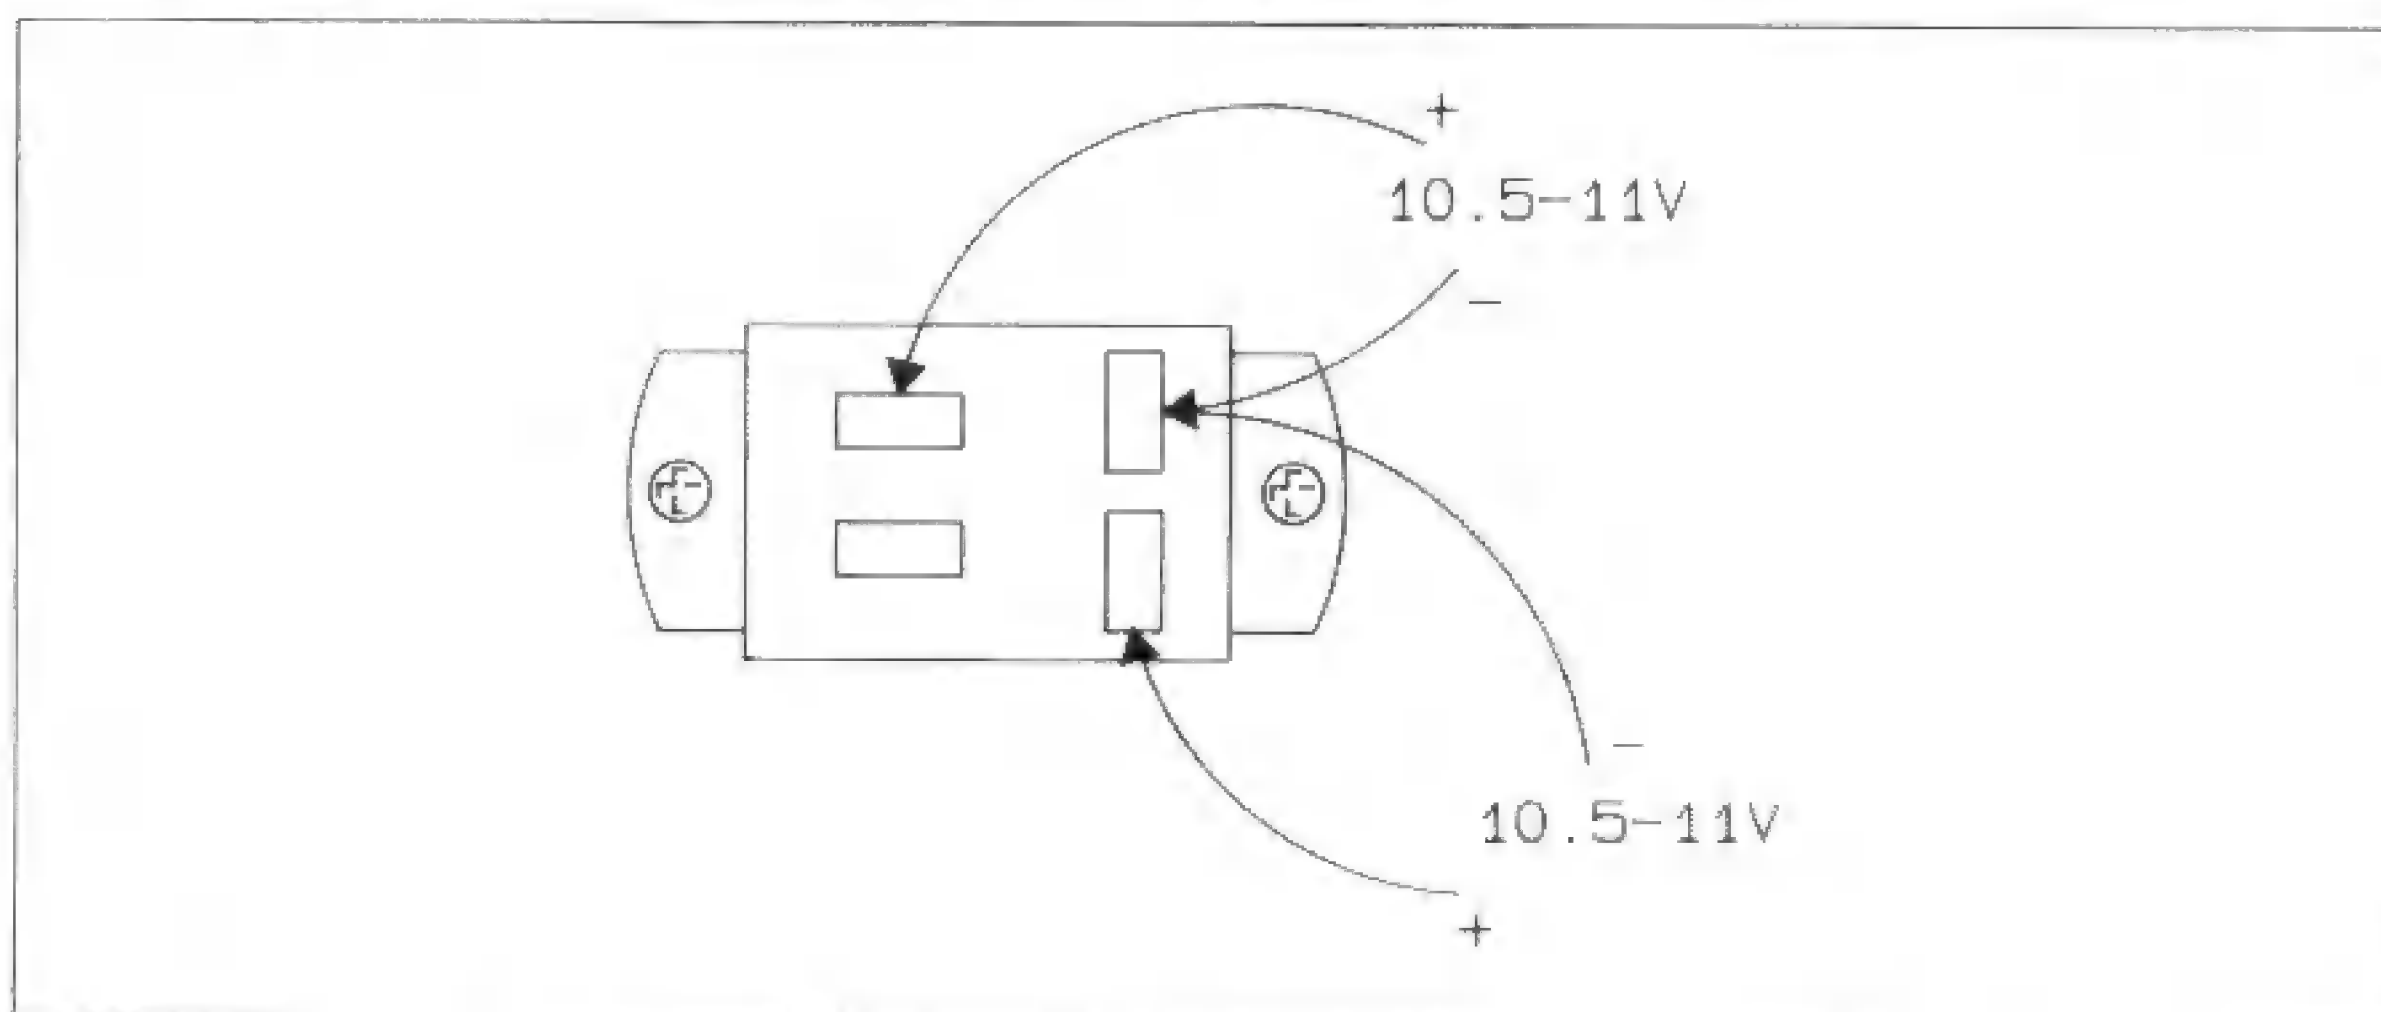

**Figure 5-4-2. HP-71B Power Supply Connections**
2. Refer to Figure 5-4-2 and check for 10 Vdc ( $\pm .5$  V) at the rear panel connector, as indicated in the figure. If the voltage is correct but incorrect or missing in step k, the cable assembly is defective.